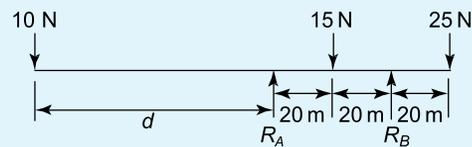

Figure 5.18
3. For the force system shown in Figure 5.18, determine distance  $d$  for the forces  $R_A$  and  $R_B$  to be equal, assuming equilibrium conditions. [80 m]